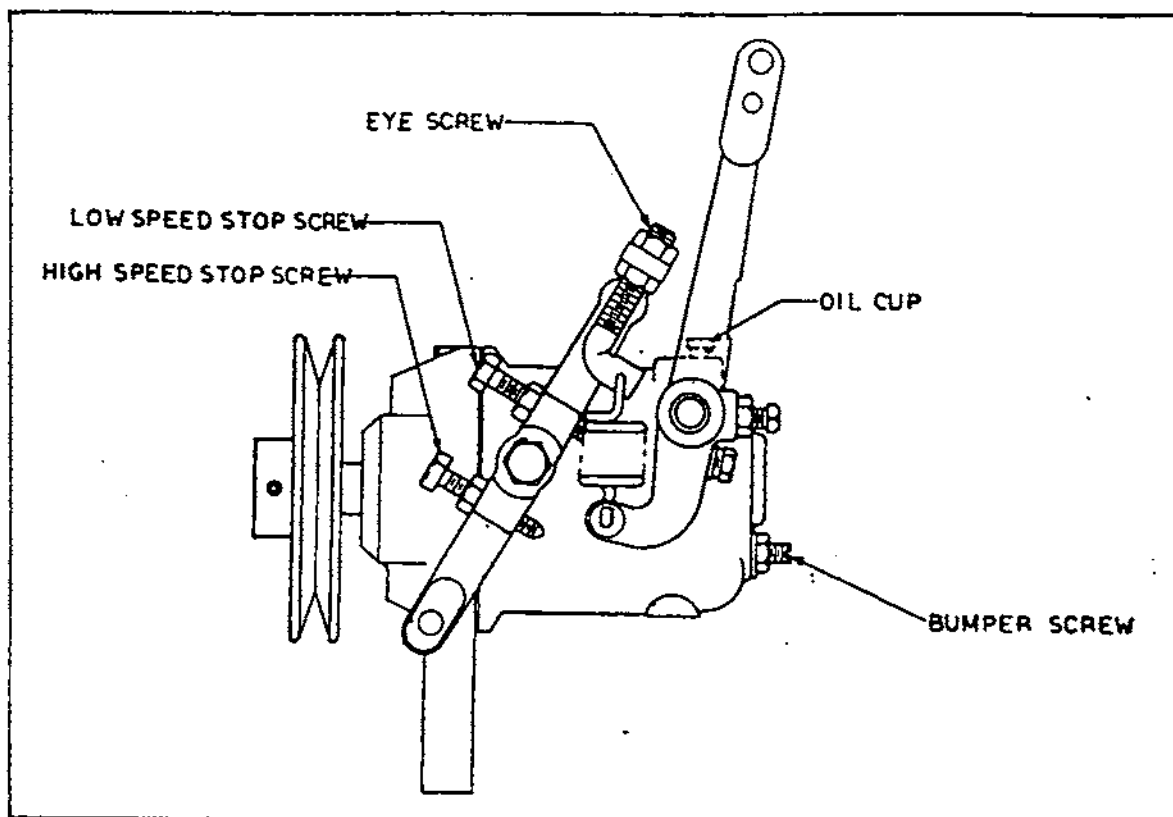

Figure 4.2-A. The Universal Type Mechanical Governor
4.2.2- ADJUSTMENT OF EARLY PRODUCTION MECHANICAL GOVERNOR (Figure 4.2-B)